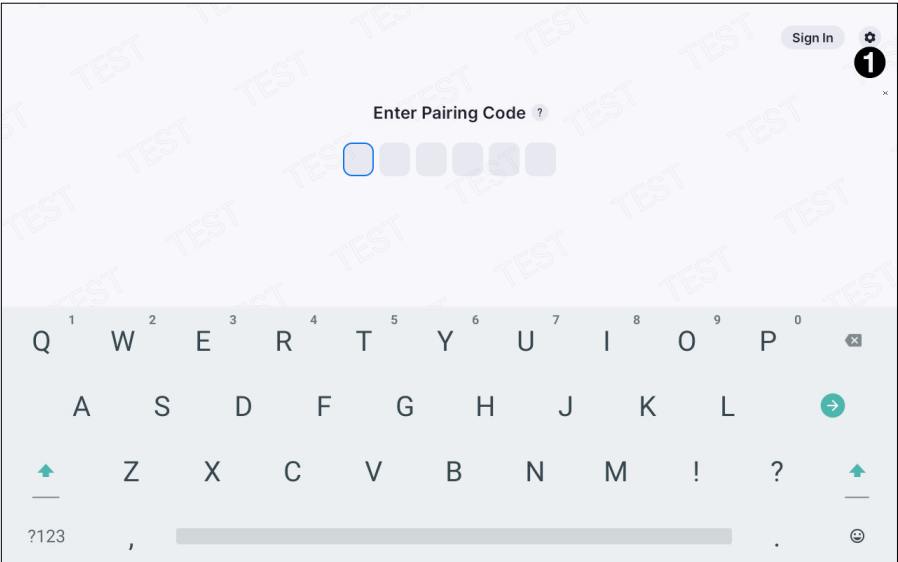

Figure 6. Click Settings Icon
- 2. Click the settings icon (figure 6, 1).